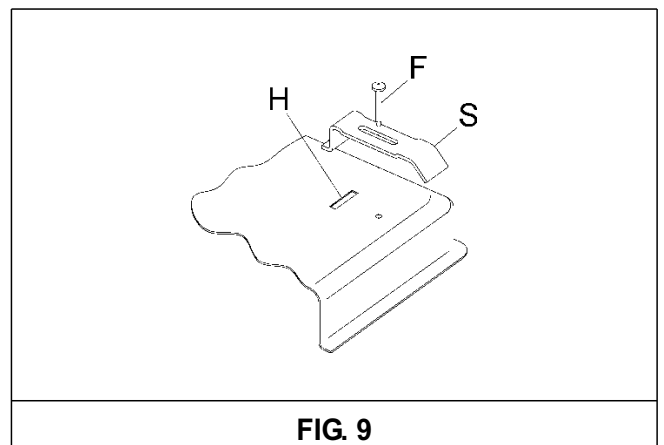

FIG. 9
- Fix the hob with the proper brackets "S" and fit the prominent part into the porthole "H" on the bottom; turn the screw "F" until the bracket "S" stick on the top (fig. 9).